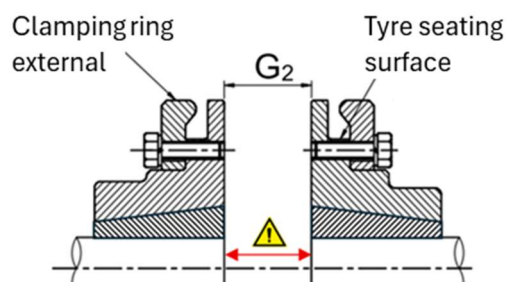
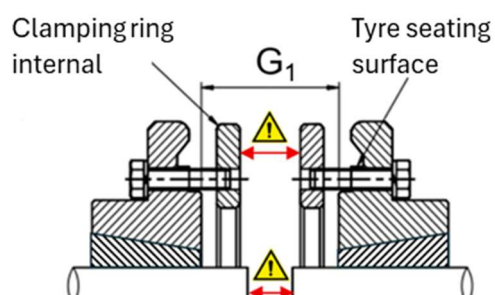

Figure 8: F-hub with external clamping ring
Figure 11: H-hub with internal clamping ring
- Ensure that sufficient clearance remains  between the shaft ends and the internal clamping rings (Figure 8 to Figure 11).